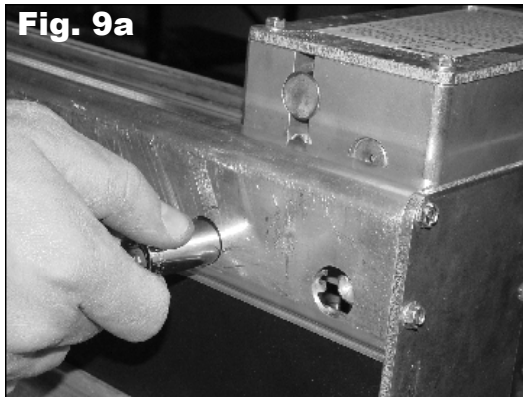

Fig. 9a
Step 9: Use a deep well socket or a nut driver to turn the guide block adjusting bolts on the bottom of the head down to just finger tight. Perform the same operation with the top adjusting bolts. See Fig. 9a & 9b.